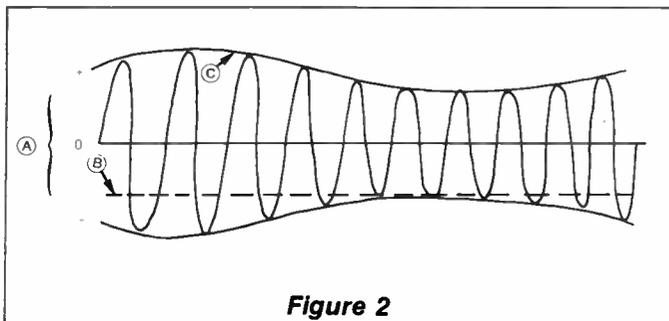

Figure 2
In this example, the monitor diode used is of a negative polarity. Therefore, the sampled voltage is the one-half wave detected and filtered negative envelope. If we greatly expand the possible leveling errors when using a broadband RF detector as the flatness indicating instrument, the results as shown in Figure 2 should occur. The envelope (A) in Figure 2 represents the output